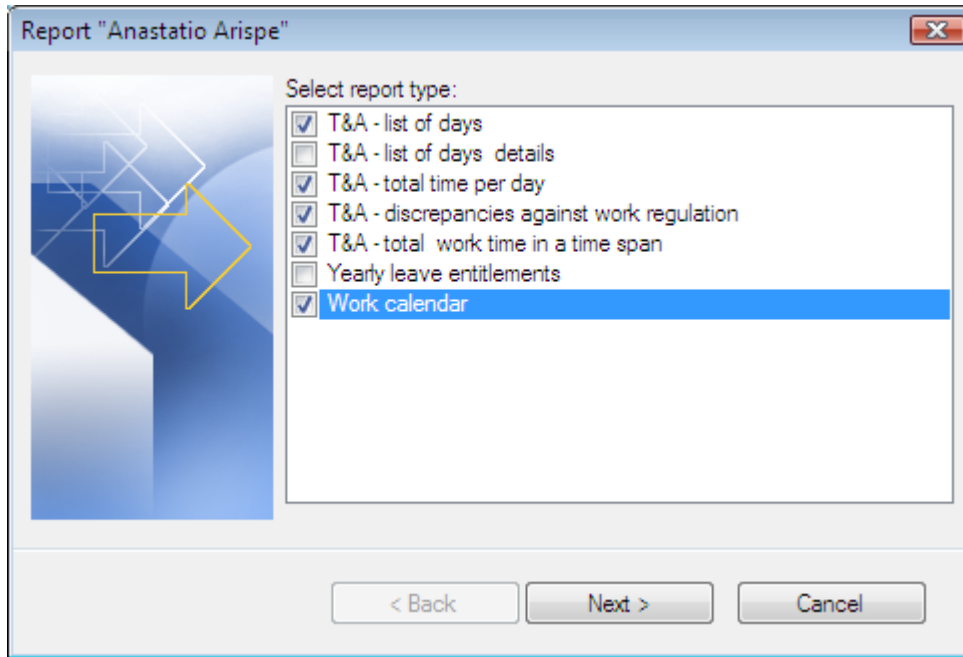

Figure 23. Selecting report types to be generated
Step 1. Select report types to generate. In the example below (see Figure 23), the generic report on work time, the report on discrepancies to work regulations (late arrivals, exceeded break limits — e.g. cigarette breaks, and so on), the leave entitlements report (the current state of the leave usage) and the work calendar report, have been selected.